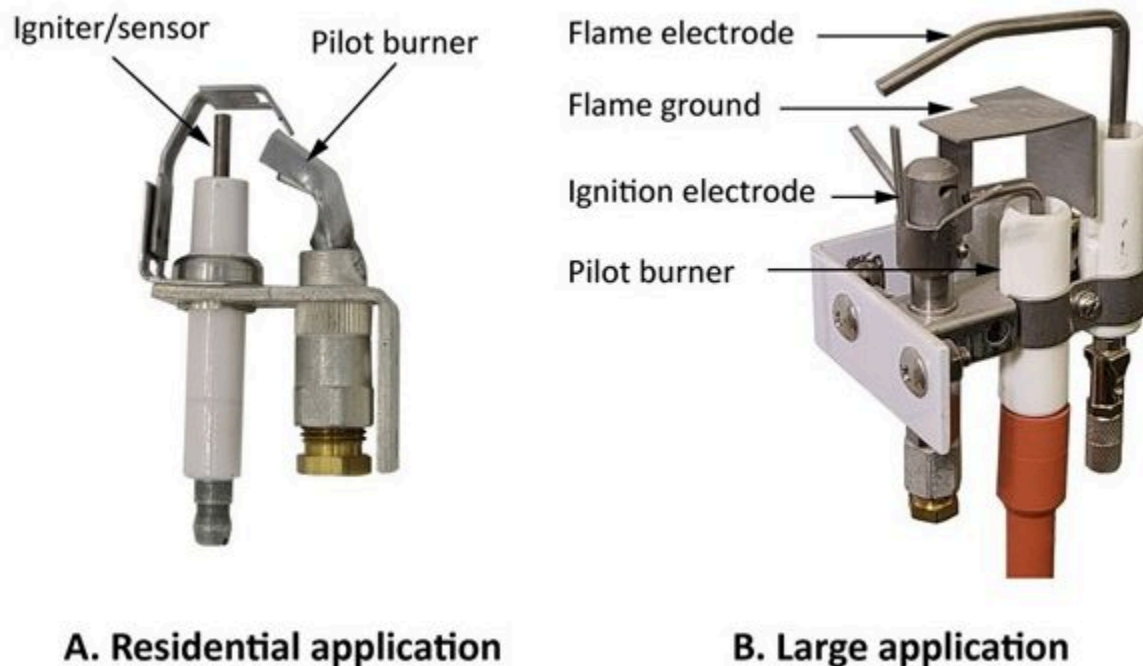

Figure 8 Rectified flame rod ground area
- Figure 8 “Burner Showing Gas Flow through an Orifice” by Camosun College is licensed under a CC BY 4.0 licence (<https://creativecommons.org/licenses/by/4.0/>).
The flame rectification system also uses two electrodes, but with one important difference: the ground electrode is much larger than the flame electrode. Usually the ground electrode will be the burner head. In some cases, additional metal rods or plates must be added to the burner to increase the grounding surface area, as it must be at least 4 times larger (usually up to 10 times larger) than the flame rod or flame electrode. (Figure 8).
- Figure 8 “Rectified flame rod ground area” by Camosun College is licensed under a CC BY 4.0 licence (<https://creativecommons.org/licenses/by/4.0/>).